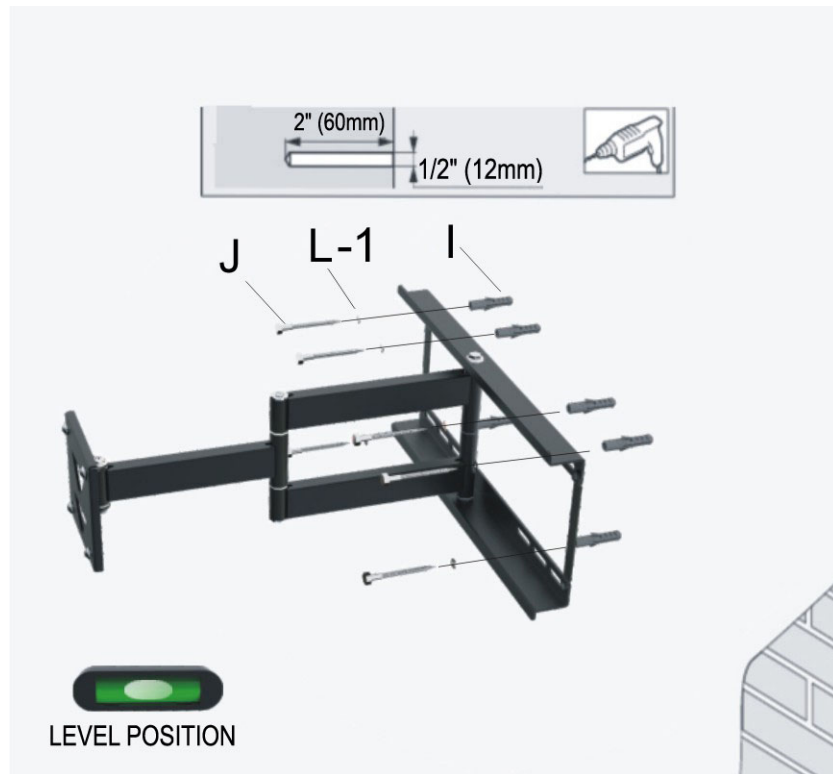

Figure 4
2. Mark six holes to be used for securing the mount, and place the wall plate aside. Locate the holes directly into the concrete or brick, never into the mortar between the blocks (Figure 4).
4. Insert a concrete anchor (I) into each hole.
7. Insert bolts (J) and washers (L-1) into the concrete anchors as shown (Figure 4) and tighten. Do not fully tighten until all bolts are in place.